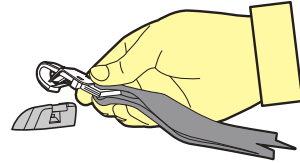

Figure 4
**Step 5:** Hook the attachment clip to the anchor fitting. Ensure there are no twists in the top tether strap (refer to Figure 4).